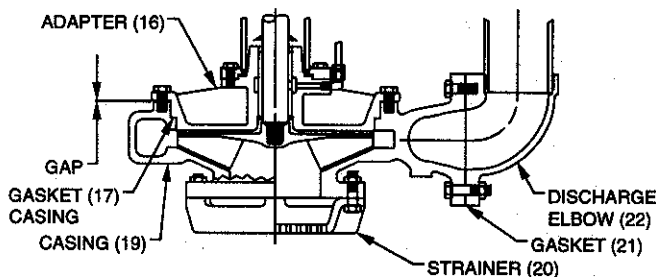

Figure 10.
16. Screw impeller (18), with O-ring (35), in place on the pump shaft (14). Make sure that shaft assembly extends through the adapter (16) so that the impeller will not contact face of adapter.
17. Place casing gasket (17) against shoulder of adapter (16).
18. Install casing (19) onto adapter and tighten bolts (33) evenly to assure that gap between adapter and casing is even. Check gap with feeler gauge in several points around the adapter. See **Figure 10**.